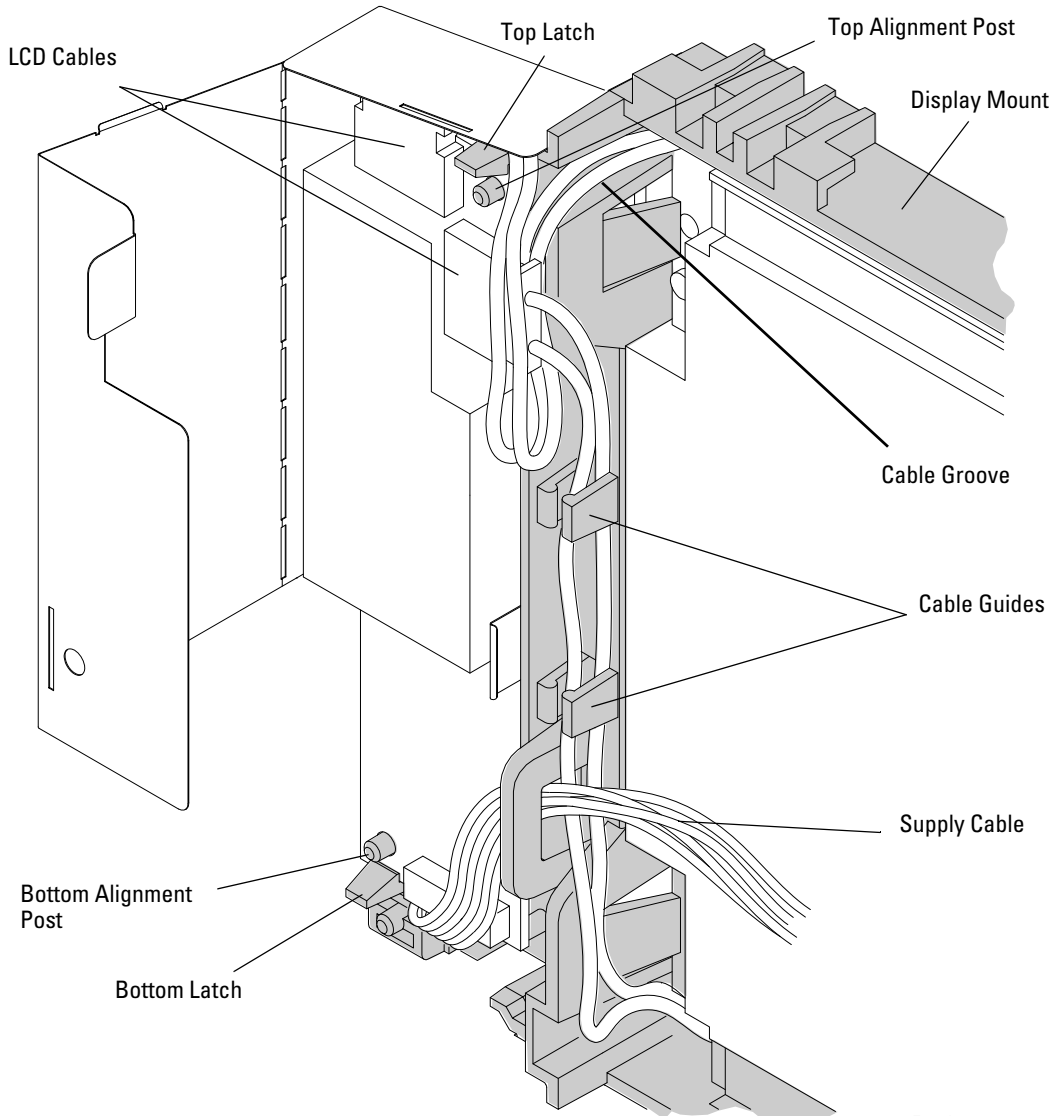

Figure 28 Removing the backlight inverter
- a** Reconnect the LCD cables looping them around each other and through the cable guides as shown in Figure 28.
- c** Align the holes in the inverter board with the posts on the display mount and push down until the latches snap over the board (refer to Figure 28).